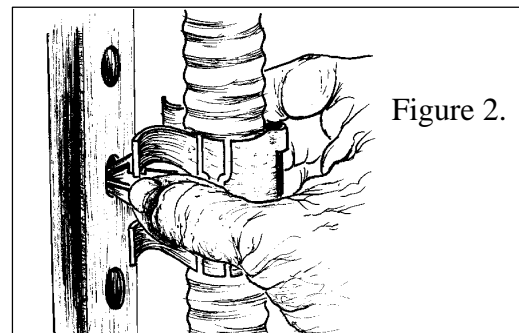

Figure 2.
3. Insert the hanger into the pre-drilled 3/4" mounting hole by squeezing the hanger sides together and inserting the two locking members completely into the mounting hole. See Figure 2. (1/2", 7/8", 1-1/4")